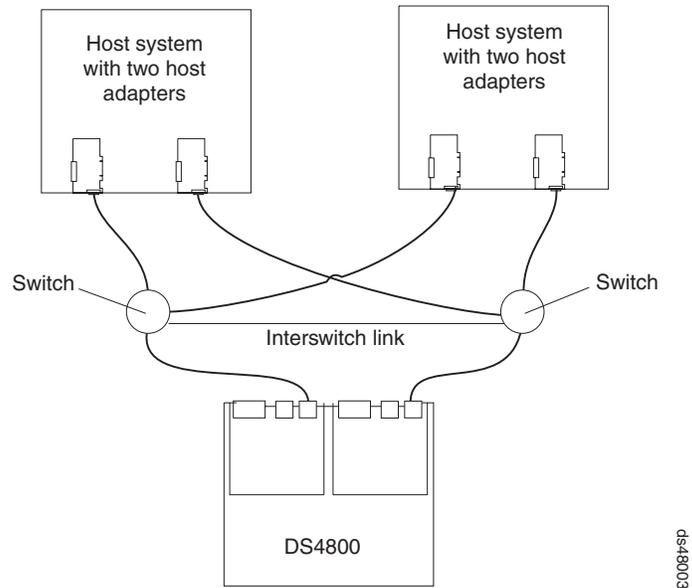

Figure 54. Example of a single SAN fabric configuration
- Single SAN fabric configuration, as shown in Figure 54 on page 71
In Figure 54 on page 71, the fibre channel switches are connected together via the inter-switch link (ISL) to form a single SAN fabric.